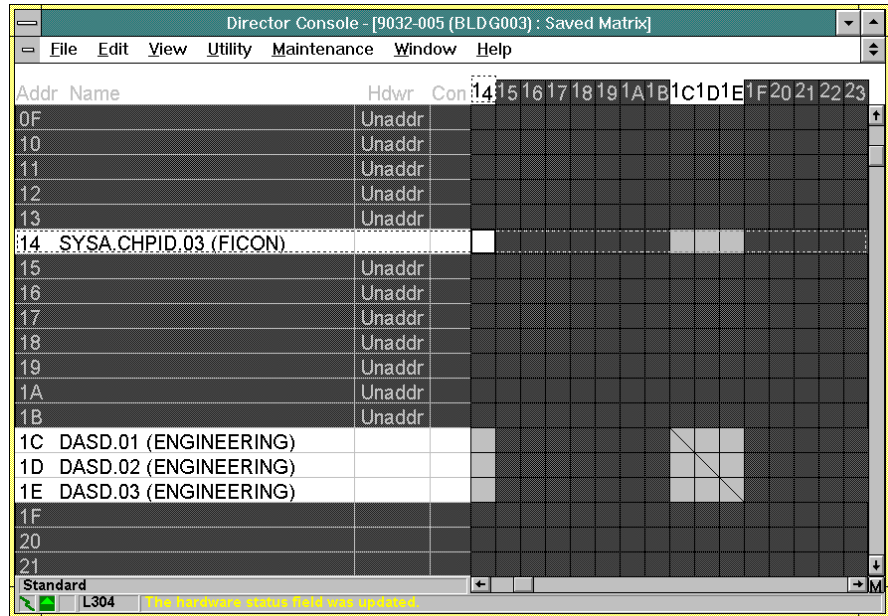

Figure 185. Matrix Window (LPAR Example)
16. Type the operator authorization password assigned in step 4 and click the *OK* button. The *Matrix* window reappears as shown in Figure 185.